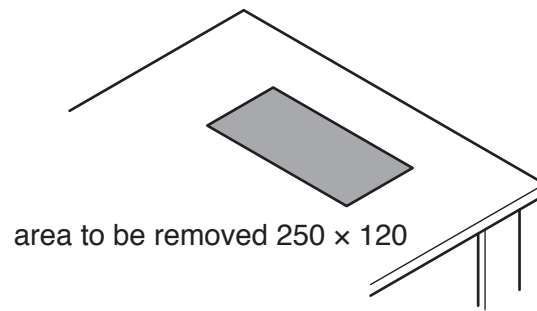

Fig. 10
- (e) A container is required to store pens, pencils and other small items of equipment. Fig. 10 shows the area where the container will fit into the table top.